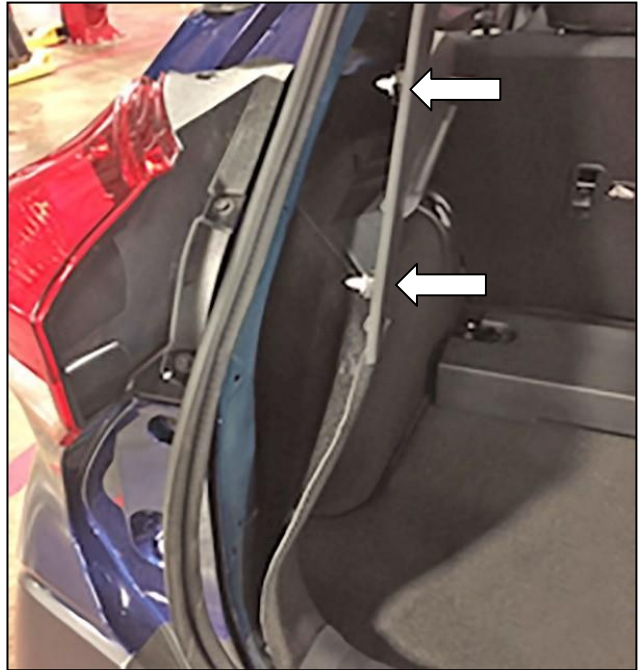

Figure 28
29. Align and fasten the two (2) driver side luggage side upper finisher clips (Figure 28).